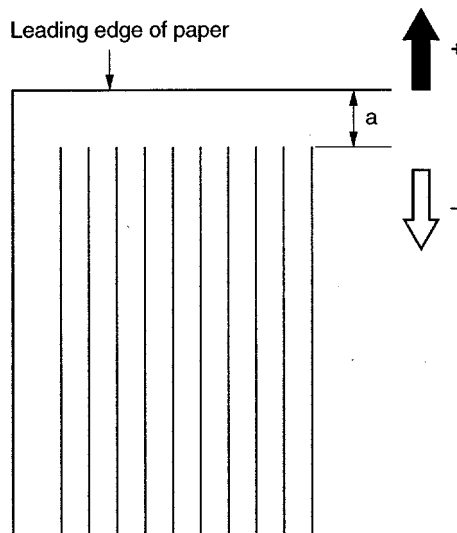

Figure 6-25 Adjusting the Top Margin
- 2 Measure the length from the leading edge to the print pattern ("a" in Figure 6-25). Measure all the test prints and calculate the average.